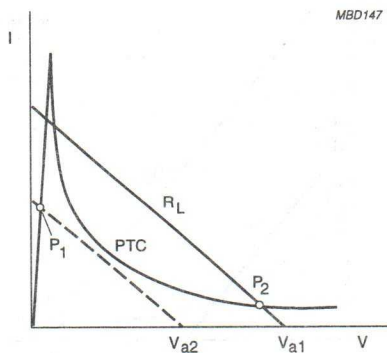

Fig.10 PTC thermistor in series with a load showing the influence of a decrease in supply voltage V_a .
1. Either the supply voltage V_a decreases (at constant load resistance); see Fig.10 or